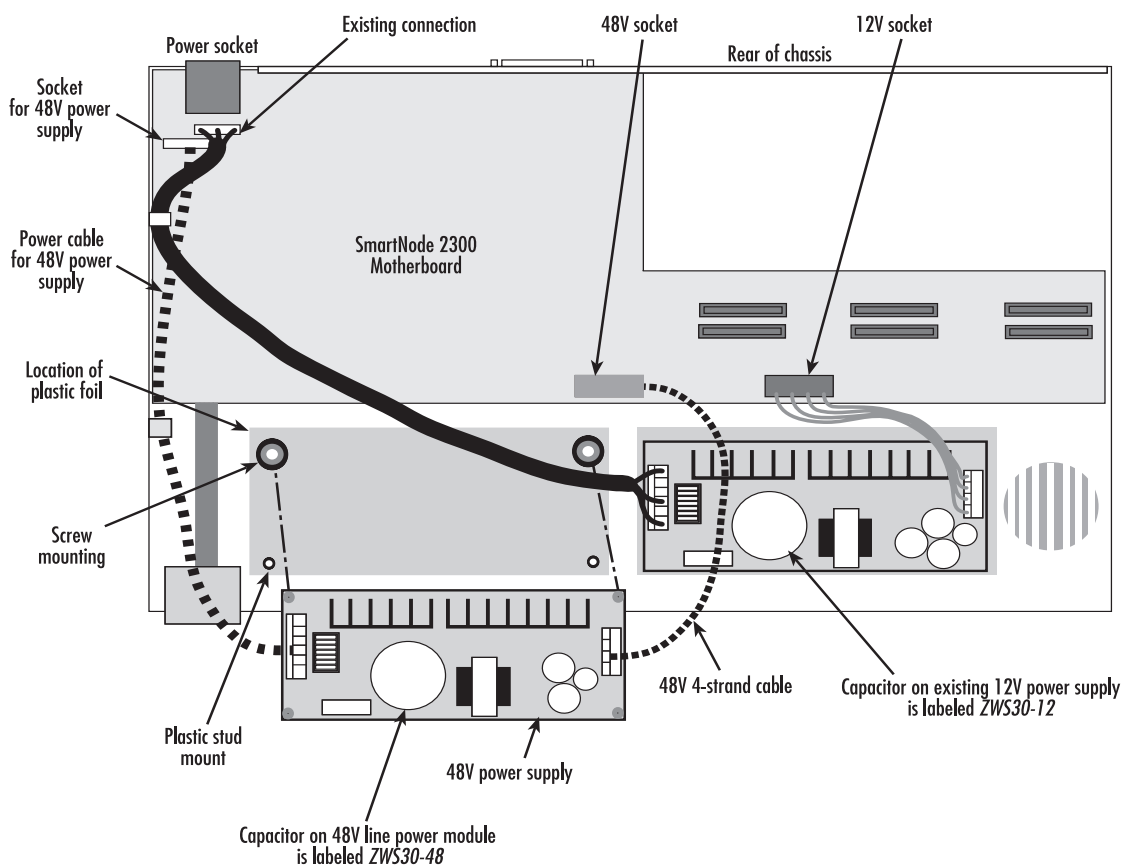
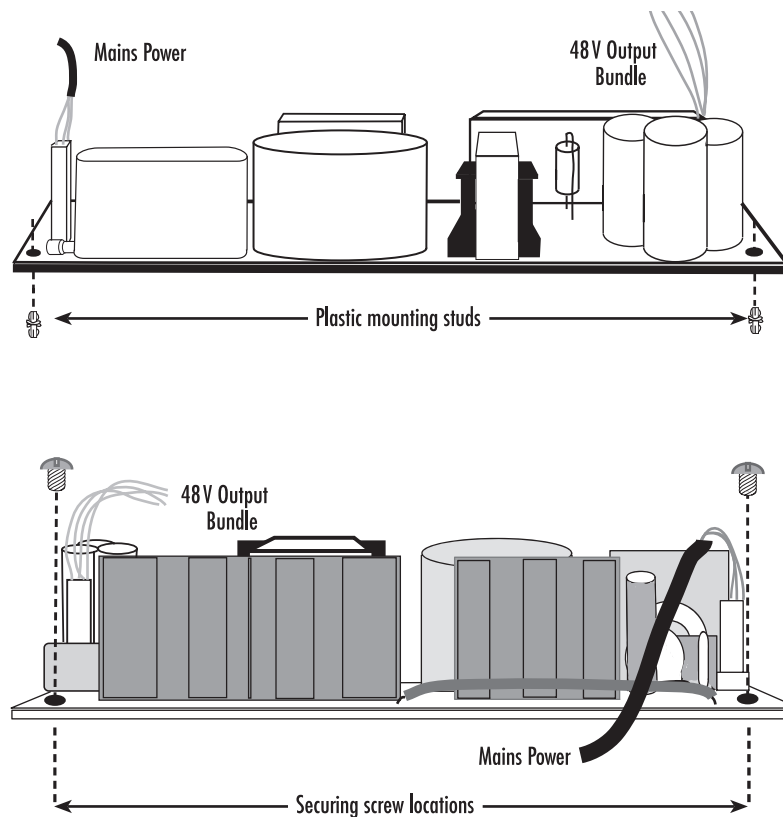
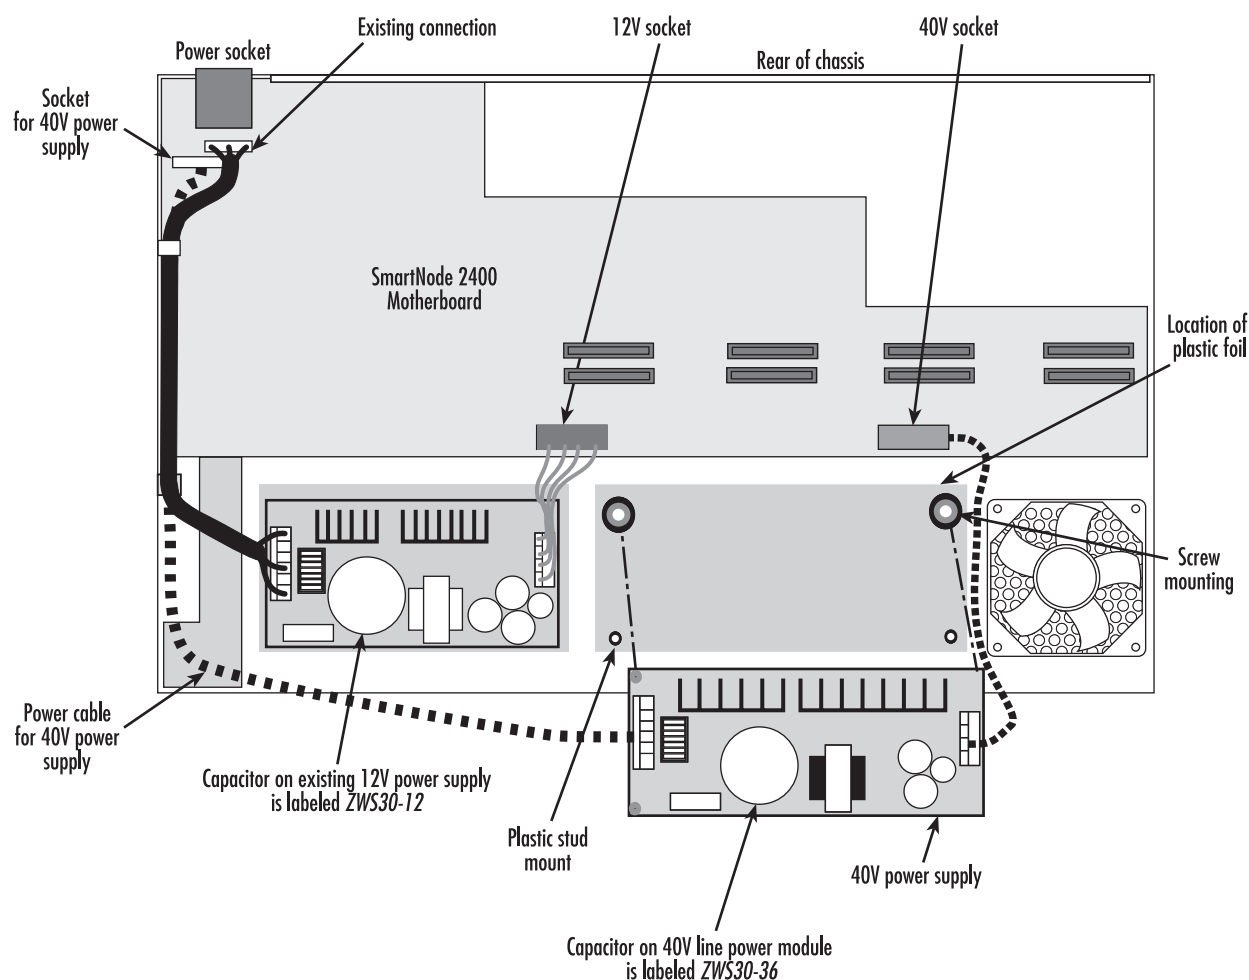

Figure 82. Internal 48V line power module and 12V power supply module locations in SmartNode 2300
Figure 83. Fixing points: internal 48V (or 40V) line power module
Figure 84. Internal 40V line power module and 12V power supply module locations in SmartNode 2400
The 48V line power module is mounted inside the SmartNode 2300, next to the existing 12V power supply. You should not move the 12V power supply module from its installed location (see figure 82 for 12V power supply location).
Note The 12V and the 48V line power modules are very similar in appearance. The 48V module is labeled *ZWS30-48* on the large electrolytic capacitor (see figure 82).
If you look at the exposed SN2300 chassis, you will see the motherboard and the 12V power module that is already installed (see figure 82). (The figure shows the general arrangement of the chassis-mounted components only, with little or no component details. The IC-4BRV-8V card is omitted for clarity). To the left of the existing 12V power module are two screw holes tapped into dimples, and two smaller holes. These four holes are for mounting the 48V line power module (see figure 83).
3. Insert the plastic mounting studs into the line power module, one into each of the two corner holes that are on the opposite side to the finned heat sinks (see figure 82 on page 128). Insert them from below.
5. From above, insert the screws into the module, one into each of the two holes at the corners of the heat-sink side. Screw them home so that the screws pass through the foil and secure the module onto the SmartNode chassis dimples. See the lower picture in figure 83 on page 129.
6. First insert the white 4-lead 48V supply cable in the line power module's socket. Then connect it to the 48V socket on the motherboard. The plug is polarized so you cannot insert the sockets the wrong way round. See figure 83 on page 129.
The 40V line power module is mounted inside the SmartNode 2400, next to the existing 12V power supply. You should not move the 12V power supply module from its installed location (see figure 84 for 12V power supply location).
Note The 12V and the 40V line power modules are very similar in appearance. The 40V module is labeled ZWS30-36 on the large electrolytic capacitor (see figure 84).
If you look at the exposed SN2400 chassis, you will see the motherboard and the 12V power module that is already installed (see figure 84). (The figure shows the general arrangement of the chassis-mounted components only, with little or no component details.). To the right of the existing 12V power module are two screw holes tapped into dimples, and two smaller holes. These four holes are for mounting the 40V line power module (see figure 83 on page 129).
3. Insert the plastic mounting studs into the line power module, one into each of the two corner holes that are on the opposite side to the finned heat sinks (see figure 84 on page 130). Insert them from below.
6. First insert the white 4-lead 40V supply cable in the line power module's socket. Then connect it to the 40V socket on the motherboard. The plug is polarized so you cannot insert the sockets the wrong way round. See figure 83 on page 129.